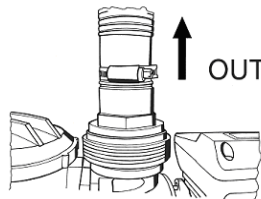

Fig. 3
3. *Outlet*: the product's exit (Fig. 3, OUT).